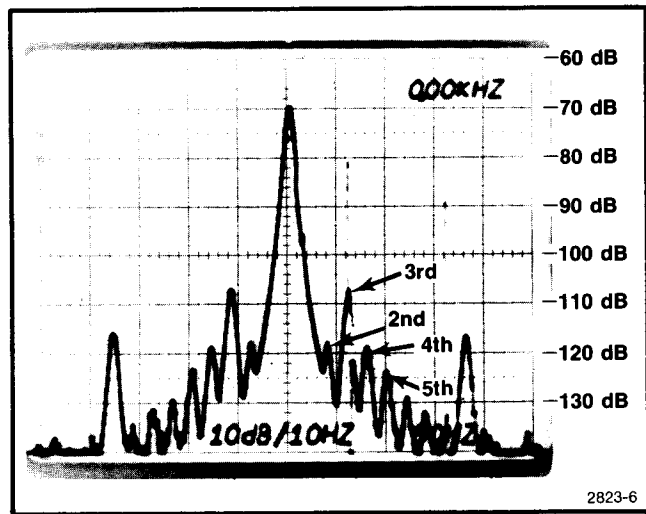

Fig. 4-3. 20 Hz harmonic distortion display.
- l. CHECK—that the calculated thd is less than -102 dB (see Fig. 4-3 for harmonics at 20 Hz).